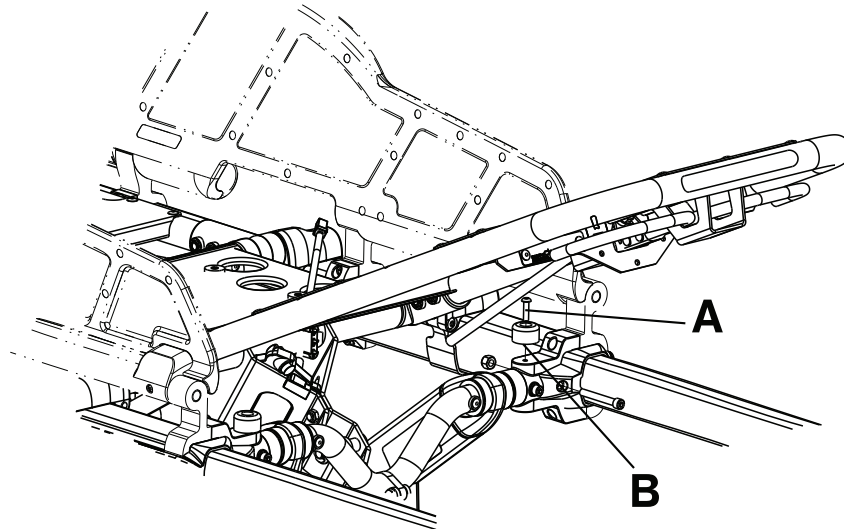

Figure 21 – Siderail assembly replacement (XPS)
3. Using a T25 Torx driver, remove the button head cap screw (A) and black bumper (B) on the side where you are replacing the siderail (Figure 21). Save the screw and bumper.